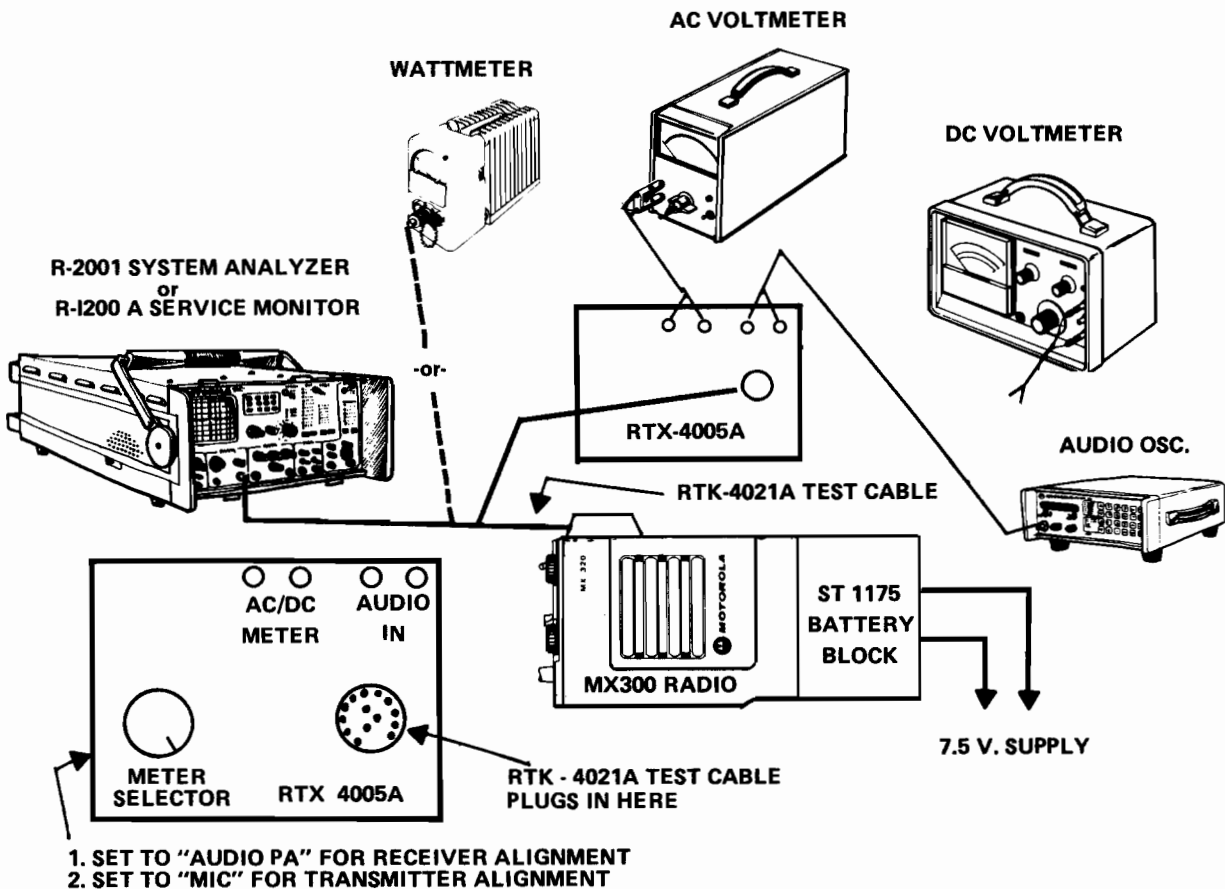

FIG. 1
A few items to note concerning Figure 1:
1. Connect the radio as shown in Figure 1.
1. Set up the radio as shown in Figure 1.
1. Set up the test equipment as shown in Figure 1.